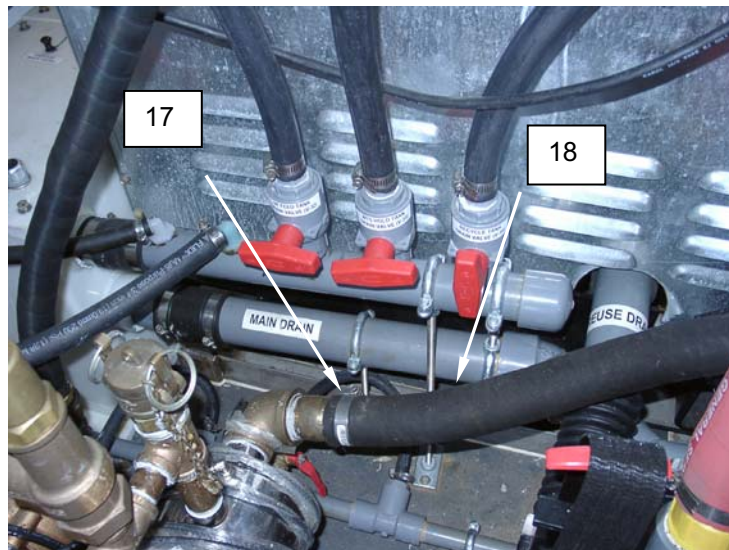

Figure 9. Replace Internal Hoses.
3. Loosen and remove hose clamps (**Figure 9, Item 17**) retaining damaged hose (**Figure 9, Item 18**).
4. Remove hose (**Figure 9, Item 18**).
5. Cut replacement hose (**Figure 9, Item 18**) to same length as damaged hose.
6. Install replacement hose (**Figure 9, Item 18**), and retain with hose clamps (**Figure 9, Item 17**).